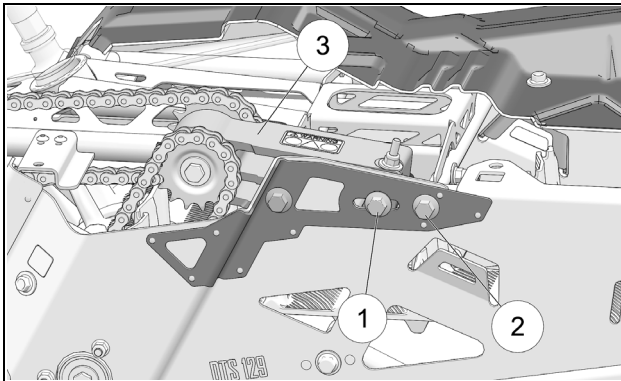

Figure 3
- Loosen assembly bolts (1) and (2) on left side panel to allow the Chain Tensioner (3) to pivot on its axis. See Figure 3.